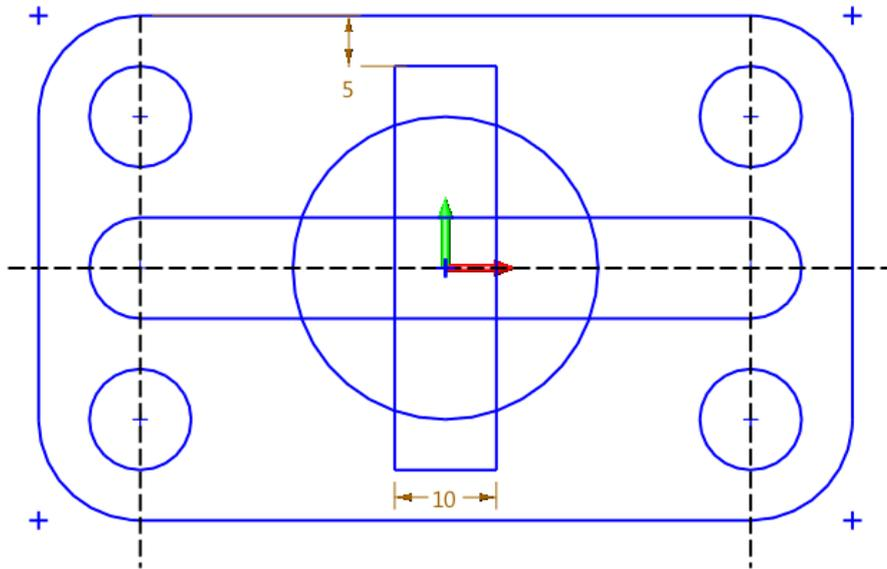

Figure 114 Rectangle
STEP 06 Create a rectangle with width 10mm, which center is the origin. And set the dimension as shown in the Figure 114.